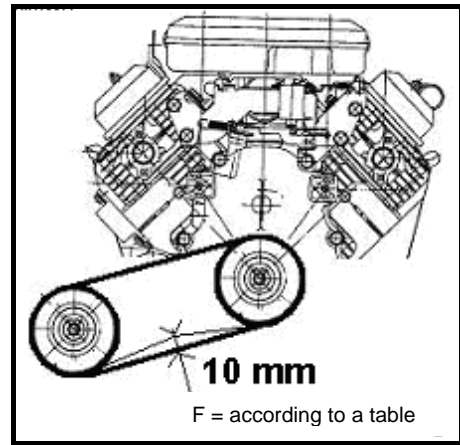

Fig.15b
2. By symmetric pushing of the pump from the frame by means of two pressing bolts (position “2”), tighten the belt. Proceed **according to Fig.15b and the Table**. (Note: A low tightening force may cause skipping of the belt pulley teeth in the case of large loads)